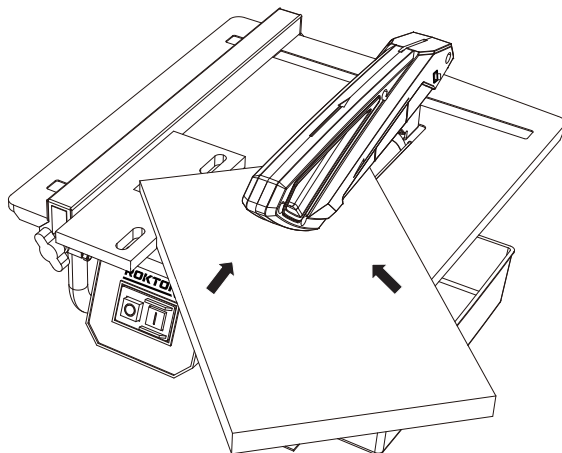

Figure 10
5. MAKING A MITRE CUT (SEE FIG. 10)